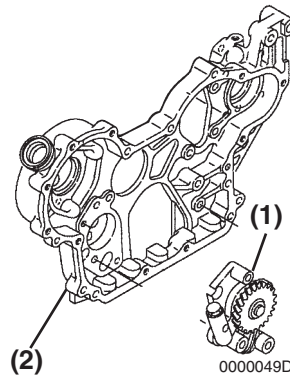

Figure 9-16
2. Remove the oil pump assembly bolts. Remove the oil pump assembly (**Figure 9-16, (1)**) from the gear case housing (**Figure 9-16, (2)**).